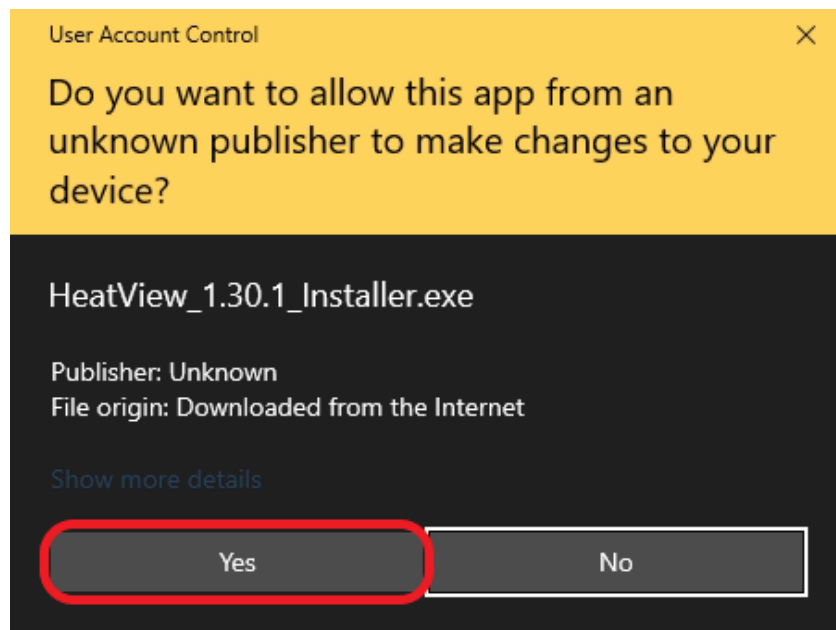

Figure 4: Installation – 'User Access Controls' window
2. Depending on how your system is configured this may or may not open 'the User Account Control' window shown in Figure 4 below, requesting administrator level permissions to proceed. If you have 'User Account Controls' turned off, you might not see this pop-up. You must either click 'YES' or provide the installation with administrator authorization in order to proceed.